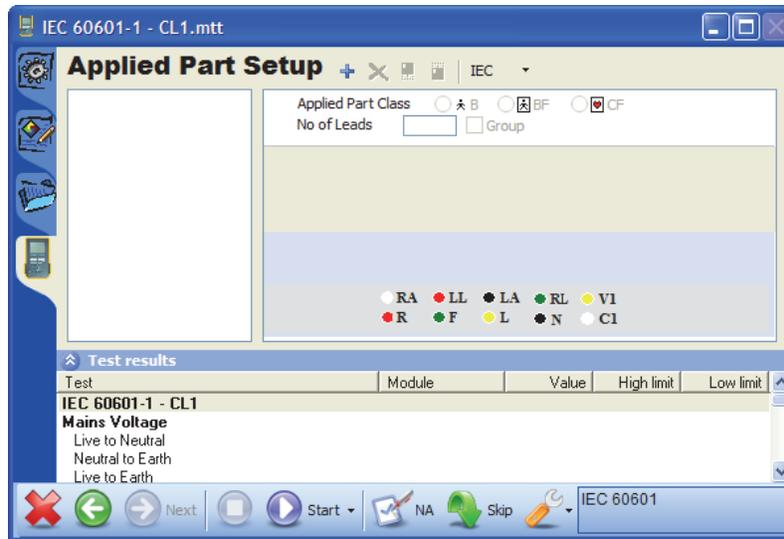

Figure 3-7. Test Guide Window with Applied Part Setup Page
1. Click the Applied Part setup tab (📄) on the left side of the Test Guide to open the Applied Part Setup page as shown in Figure 3-7.
If AAMI applied part nomenclature is set, the applied part class options are different than those shown in Figure 3-7.